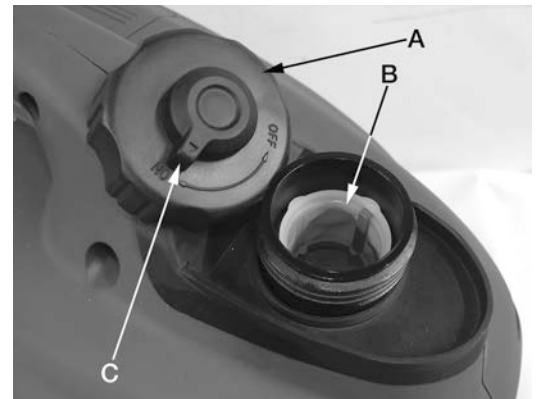

Figure 2
- 1) If it is necessary to add fuel, first make sure the engine is OFF and preferably cool, then open and remove the fuel cap (A) Fig.2 by turning it counterclockwise.
- 2) Make sure the fuel filter cup (B) is positioned inside the tank opening before refueling.
- 4) **IMPORTANT:** Before operating generator, turn the fuel cap lever (C) Fig.2 to the "On" position to allow gas vapors to escape, preventing fuel vapor build-up in the gas tank. Once you have finished using the generator, turn the fuel cap lever to the "Off" position.